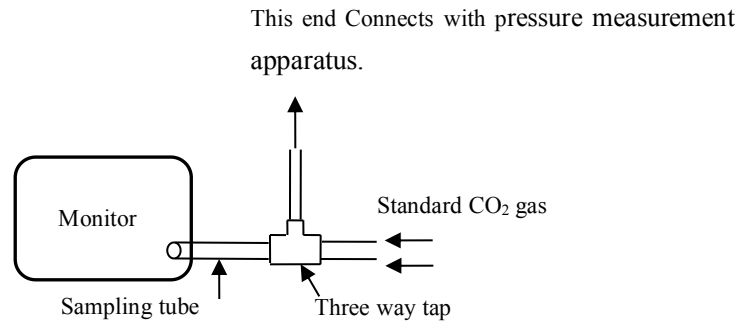

Fig.5-7-4 Gain calibration sketch map
3. Please connect the adjusting device according to Fig.5-7-4. While the standard gas of pressure CO2 5.0% ( 38.0mmHg ) getting across the sampling tube, observe pressure measuring apparatus carefully to ensure that the pressure of standard gas is one standard atmosphere (the range of error is ±5%). Then select **<Menu>**→**<Monitor Setup>** → **<System Setup>**→**<Machine>** , press the **<CO2 GAIN CAL>**,and input **5%** in the popped up window. Select**<OK>**to start gain calibration. About 5 seconds later, the reading having calibrated will be shown in the screen.